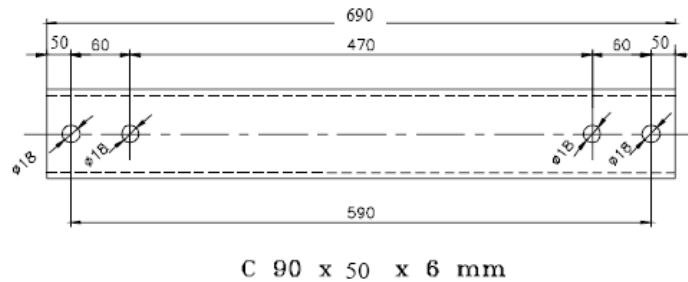

Figure A10 - Profile for anchoring base
- Transformers must incorporate an anchoring base, with two U-profiles, separating the pond bottom floor, at least at 50 mm. The design must conform to Figure A10.